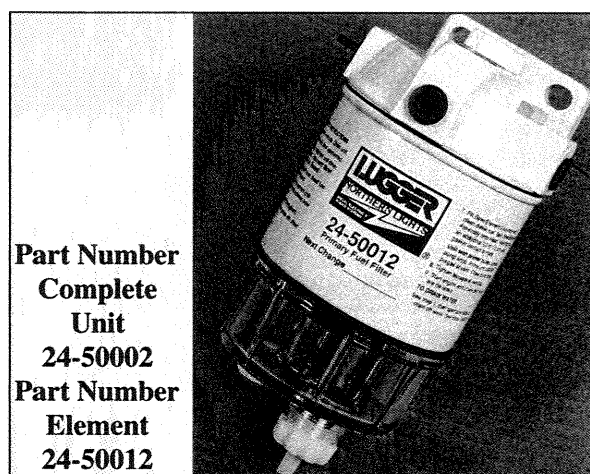

Figure 9: Primary Fuel Filter
5. To adjust valve clearance, loosen the lock nut on the adjustment screw. Insert a feeler gauge between the rocker arm and the valve stem cap. Adjust until the feeler gauge slides with a slight drag. Tighten the lock nut and recheck the clearance (Figure 9).